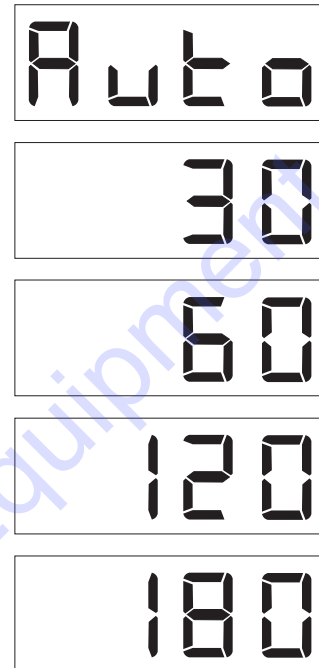

Figure 30. Warm-Up Adjustment
4. Press the **UP ARROW** button (↑) to change the setting from "AUTO" (default) to **30**, **60**, **90**, **120**, or **180** seconds (Figure 30). Verify the time selected by reading the value on the 7-segment display.